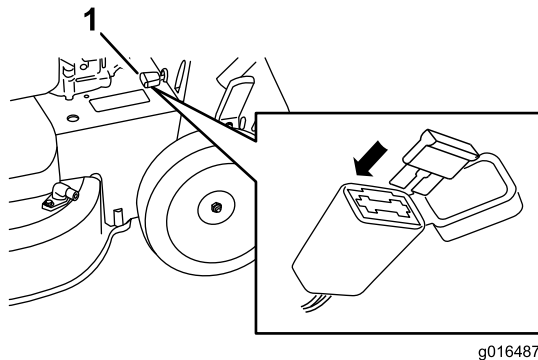

Figure 35
1. Open the sealed fuse holder and replace the fuse (Figure 35).